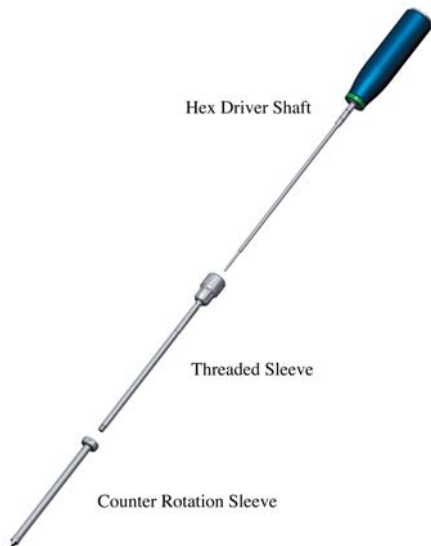

Figure 6a
- Insert the hex tip of the Minipolyaxial Screwdriver (Figure 6a) into the head of the appropriate length screw and load the screw onto the driver (be sure the screw is straight and rigidly connected and co-axial on the longitudinal axis of the screwdriver) (Figure 6b).